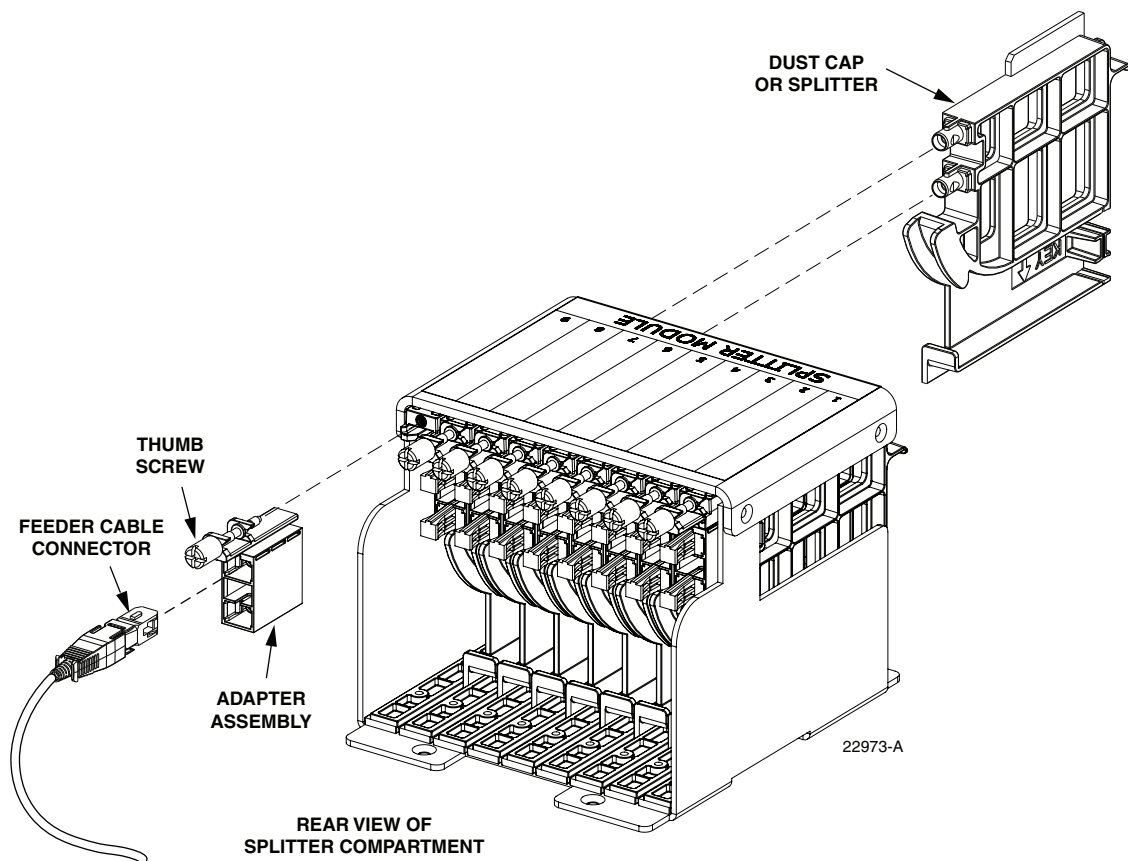

Figure 48. Splitter Compartment Adapter Replacement - Typical Compartment
3. Remove the feeder cable connector(s) from the rear side of the broken adapter assembly as shown in Figure 48 and install a dust cap on the connector(s).